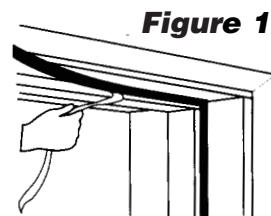

Figure 1
2. INITIAL PLACEMENT: Remove a portion of paper backing which protects the adhesive by gradually peeling the tape and press gasket in place. (do not touch the adhesive) (Figure 1)
3. Cut gasket for head to size. Gradually peel the tape from the adhesive and press the gasket in place. Apply as shown in Figure 1.